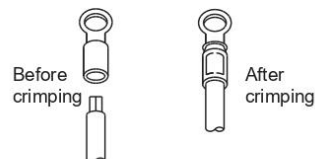

Fig. 2.7 Crimp-on terminals
- Use crimp-on terminals (4 mm screw) and heat-shrink insulating sleeves on power and ground wiring. (See Fig. 2.7 for illustration of crimp-on terminals).